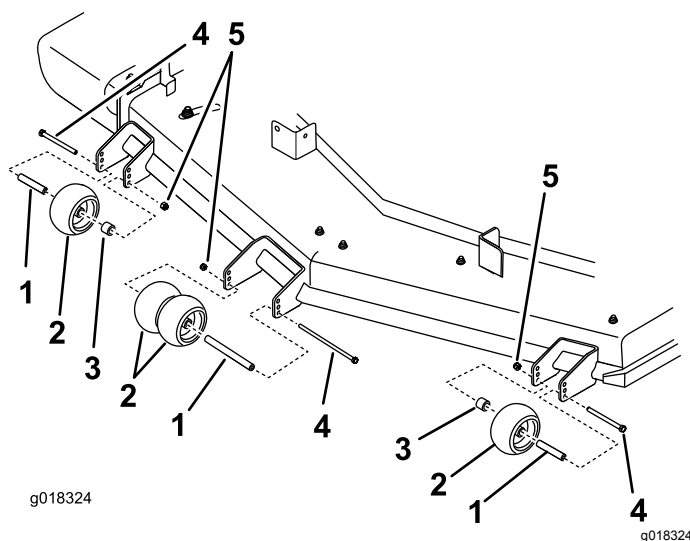

Figure 22
4. Ensure that the spacers and bushings are installed (Figure 22).